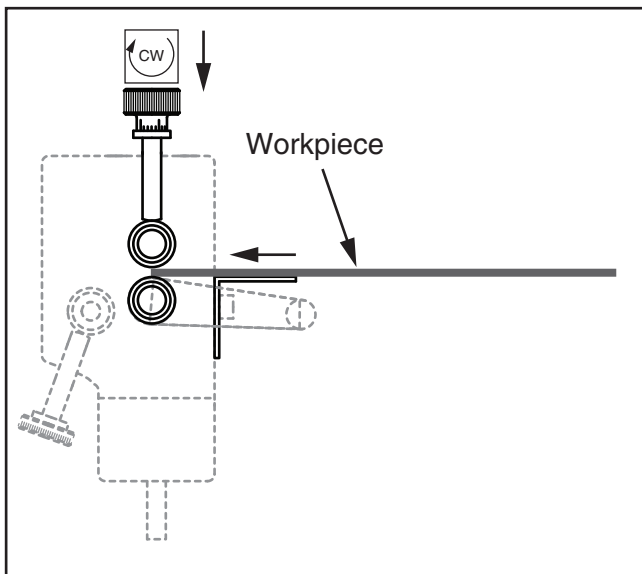

Figure 14. Workpiece positioned for creating a cylinder.
1. Use the thickness adjustment knobs to adjust the height of the upper roller so that you can place the workpiece between the upper and lower rollers, as illustrated in **Figure 14**.